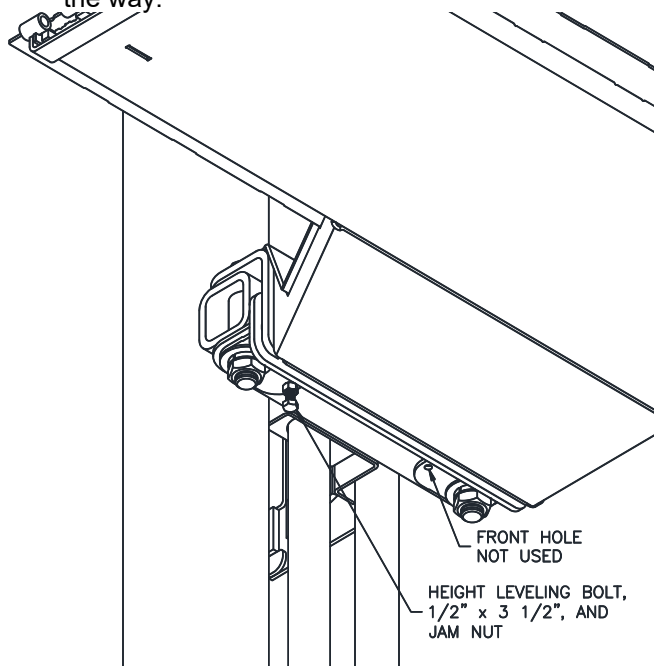

Fig. 7 INSTALLING THE HEIGHT LEVELING BOLTS
7. Install one Height Leveling Bolt, 1/2" x 3 1/2" fully threaded bolt, at the rear of each Lower Clevis Plate, **Fig. 7**. Thread the bolt all the way up into the Carriage Cross Tube for now to keep it out of the way.